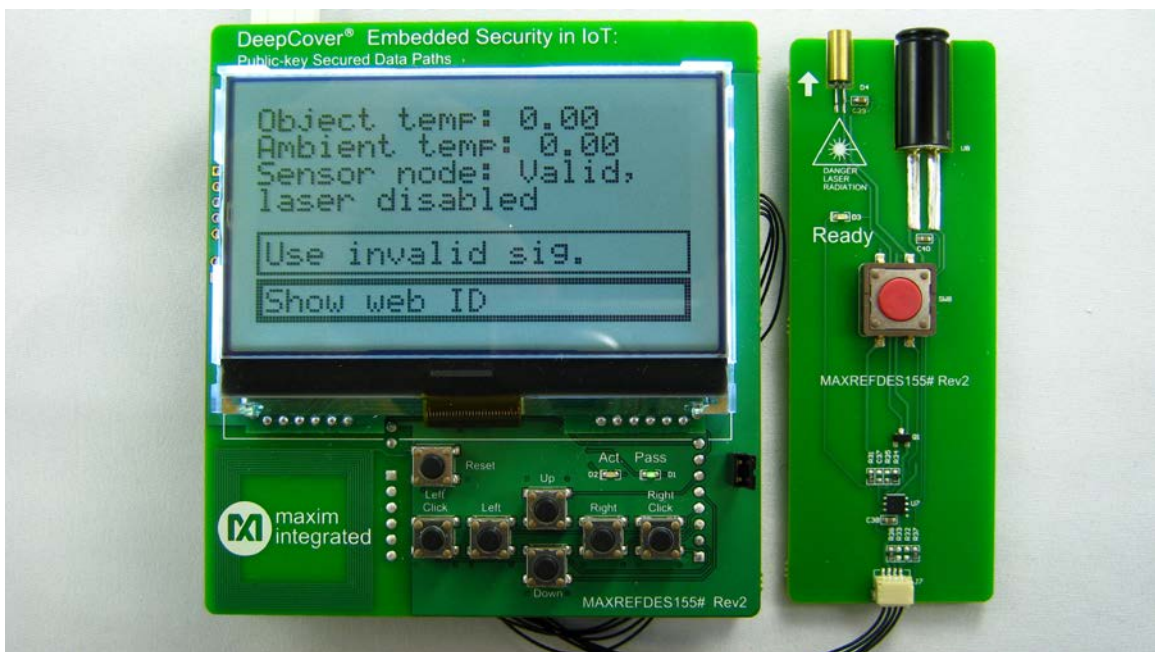

Figure 13. Sending valid signatures to the web server.
9. Verify the mbed shield LCD screen shows **Sensor node: Valid, laser disabled** as shown in **Figure 13** indicating the mbed is sending valid signatures to the web server but the laser is not enabled.